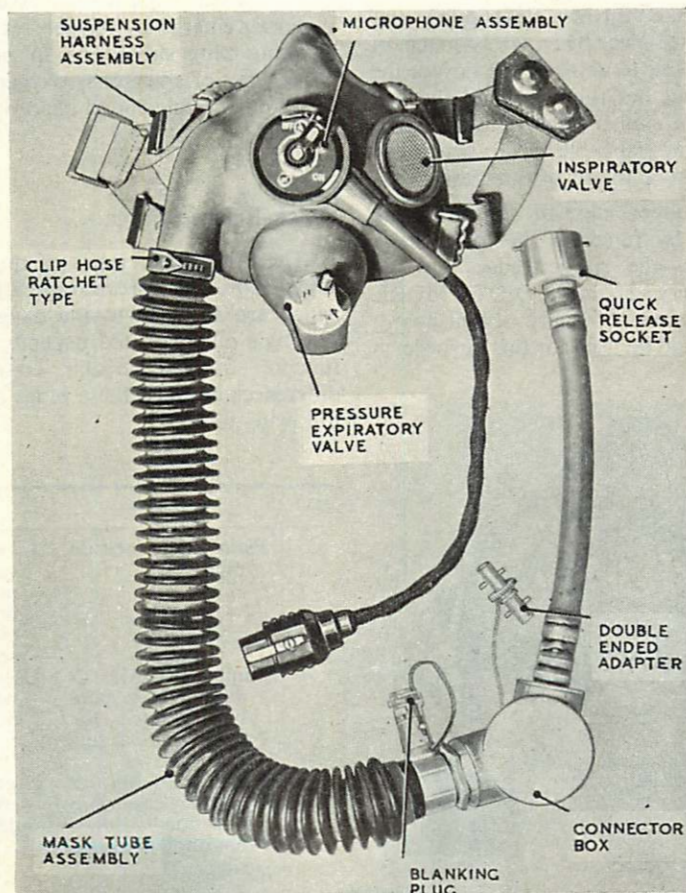
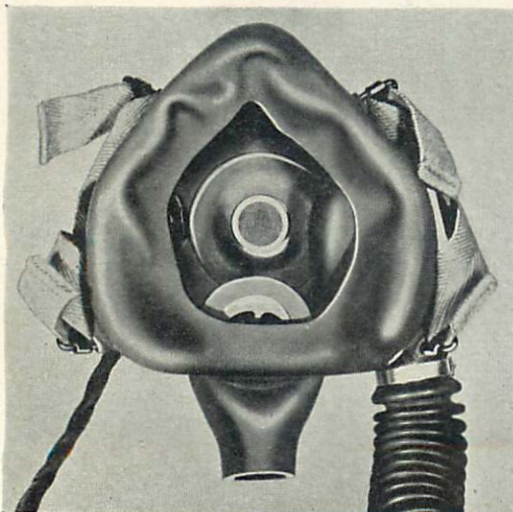

Fig. 3. Oxygen Mask, Type M.
Fig. 4. Interior of Type M Mask.
6. The Type M mask (Fig. 3) has been designed to eliminate difficulties experienced with the Type J mask, which it will eventually replace. It is appreciably lighter in weight and more comfortable to wear. Two new components are introduced; a redesigned face-piece and suspension harness. Other components such as valves and the mask tube assembly are identical with those used with the Type J mask or so similar as to make further description unnecessary. The face-piece (Fig. 4) is made of pure latex rubber and is unlined. It covers the nose and mouth but not the chin, and the seal is formed by a thin rubber edge. Incorporated in the nose strip is a malleable metal, which can be adjusted to improve the fit of the mask.